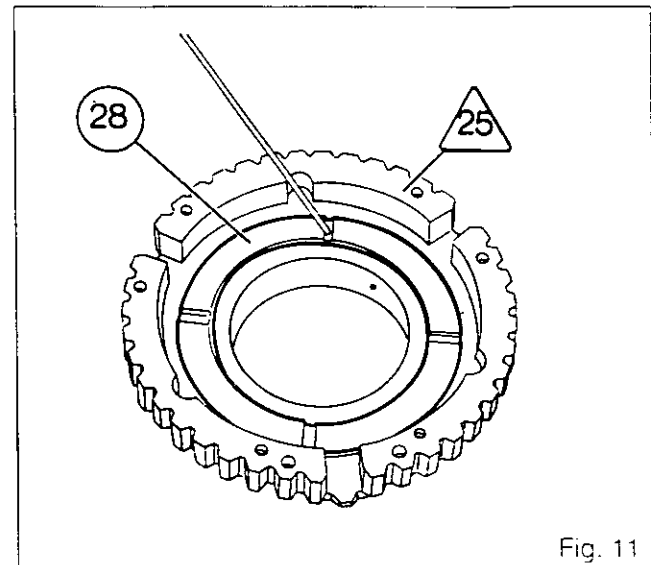

Fig. 11
32. Take out splined hub (15).
33. Take out pressure plate (41), disc (42), spring washer (43), pressure plate (44), disc (45), spring washer (46) and pressure plate (47).
34. Withdraw piston (28) from cover /25\ (Fig.11).
35. Remove O-rings (26) and (29) and discard them.
**N.B. : In the super creeper version, cover /25\ and piston (28) differ from those in the 30 and 40 km/h versions. The cross-sectional area of the piston is greater and this means that the diametric cutouts in the cover are larger.**